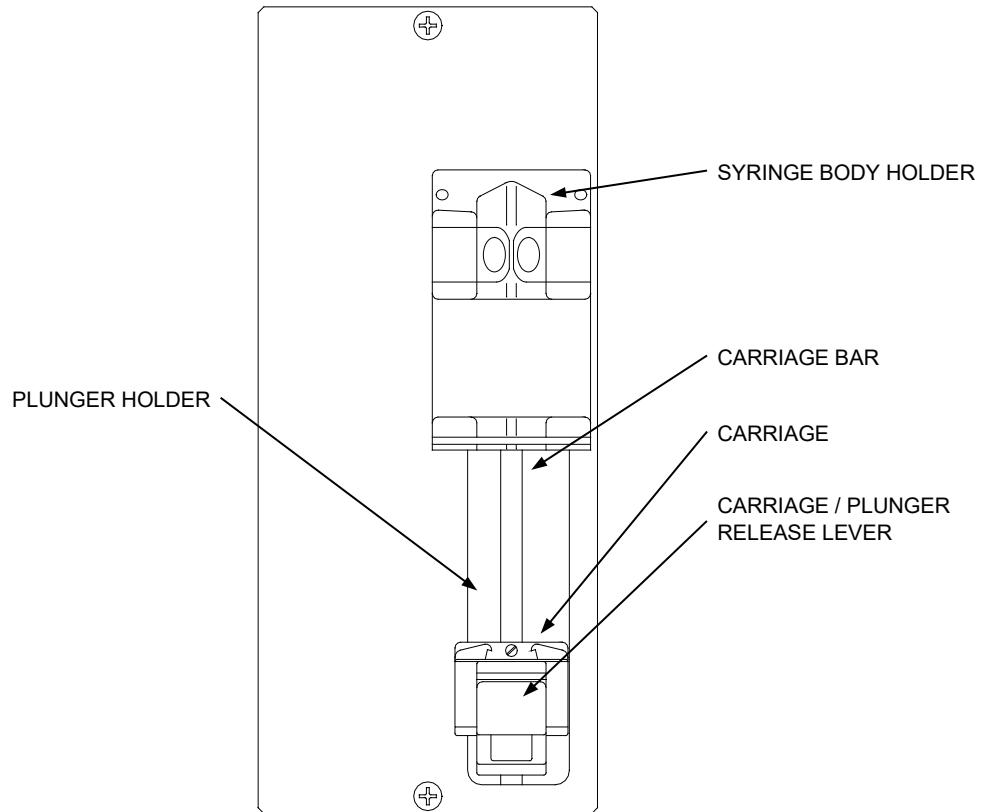

Figure 8 Heparin Pump Module
7. Squeeze the carriage/plunger release lever and slide the carriage all the way down so the carriage bar is accessible (see Figure 8).